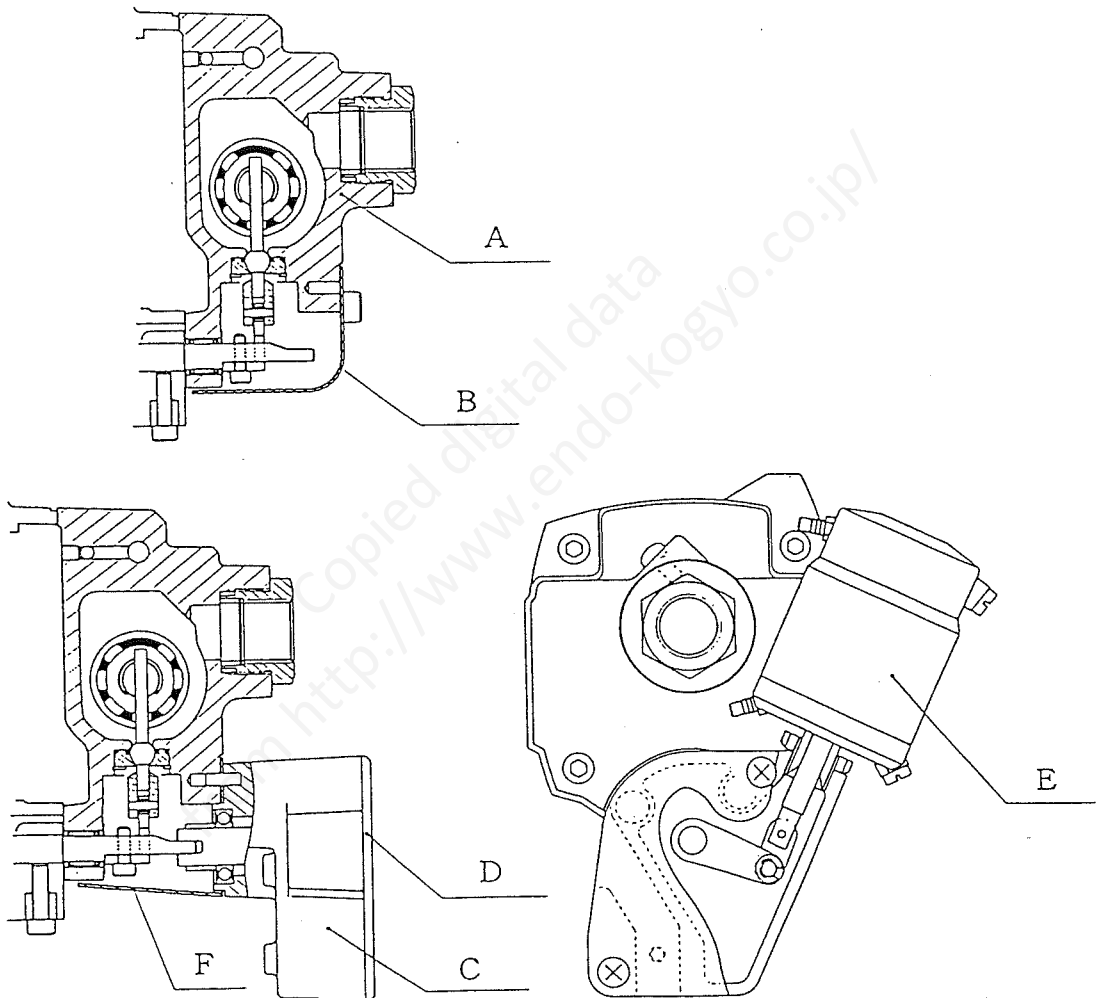

Fig. 6
- When using the trolley with the Endo hoist and controlling them with the four-buttons pendant switch (see Figure 6.):
- (1) Remove Cover (B) from Valve housing (A) of the hoist.
- (2) Remove Cover (D) from Cylinder holder (C).
- (3) Install Cylinder (E) and Cylinder holder (C) together with Cover (F) on Valve housing (A).
- (4) Connect the control tubes after installing the hoist.